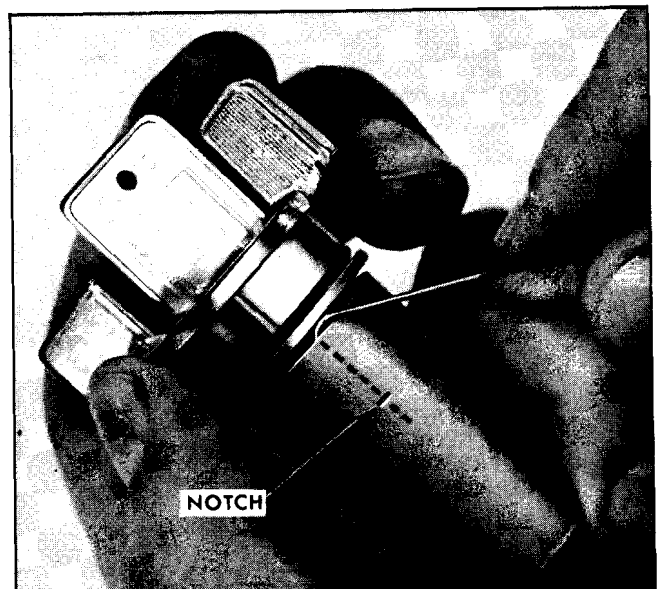

Fig. 0-12 Depressing Lock Cylinder Retaining Pin
- C. Using suitable pick, depress brass pin in slot on side of cylinder as shown in Fig. 0-12.